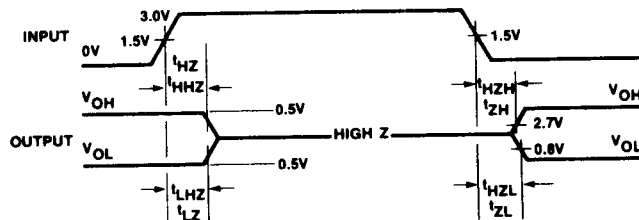

Figure 12. Switching Test Waveforms
**SWITCHING CHARACTERISTICS** ( $V_{CC} = 5.0 \text{ V} \pm 5.0\%$ ,  $0^\circ\text{C} \leq T_A \leq 75^\circ\text{C}$ ) See Figure 12 for test load (switches S1 and S2 are closed unless otherwise specified) typicals are for  $V_{CC} = 5\text{V}$ ,  $T_A = 25^\circ\text{C}$ .